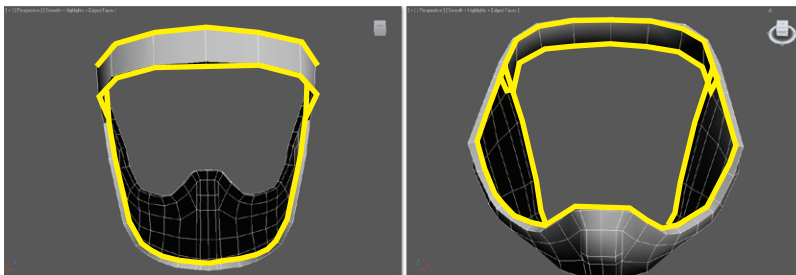
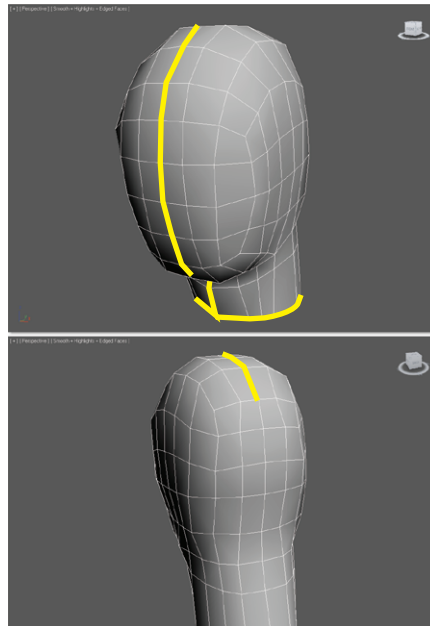
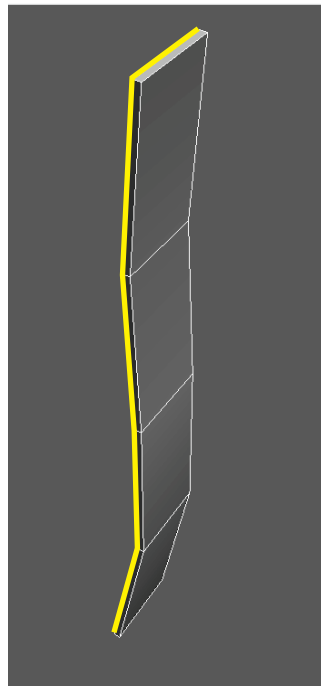

FIGURE 11.18 Seams for soldier face mask
FIGURE 11.19 Seams for the soldier head
FIGURE 11.20 Seams for the soldier helmet straps
12. Then follow the same process as before to create the seams shown in Figure 11.18 for the face mask, Figure 11.19 for the head, and Figure 11.20 for the helmet straps.